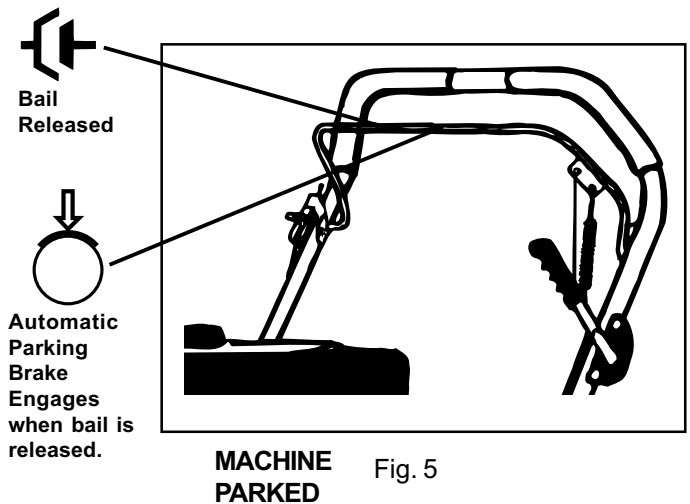
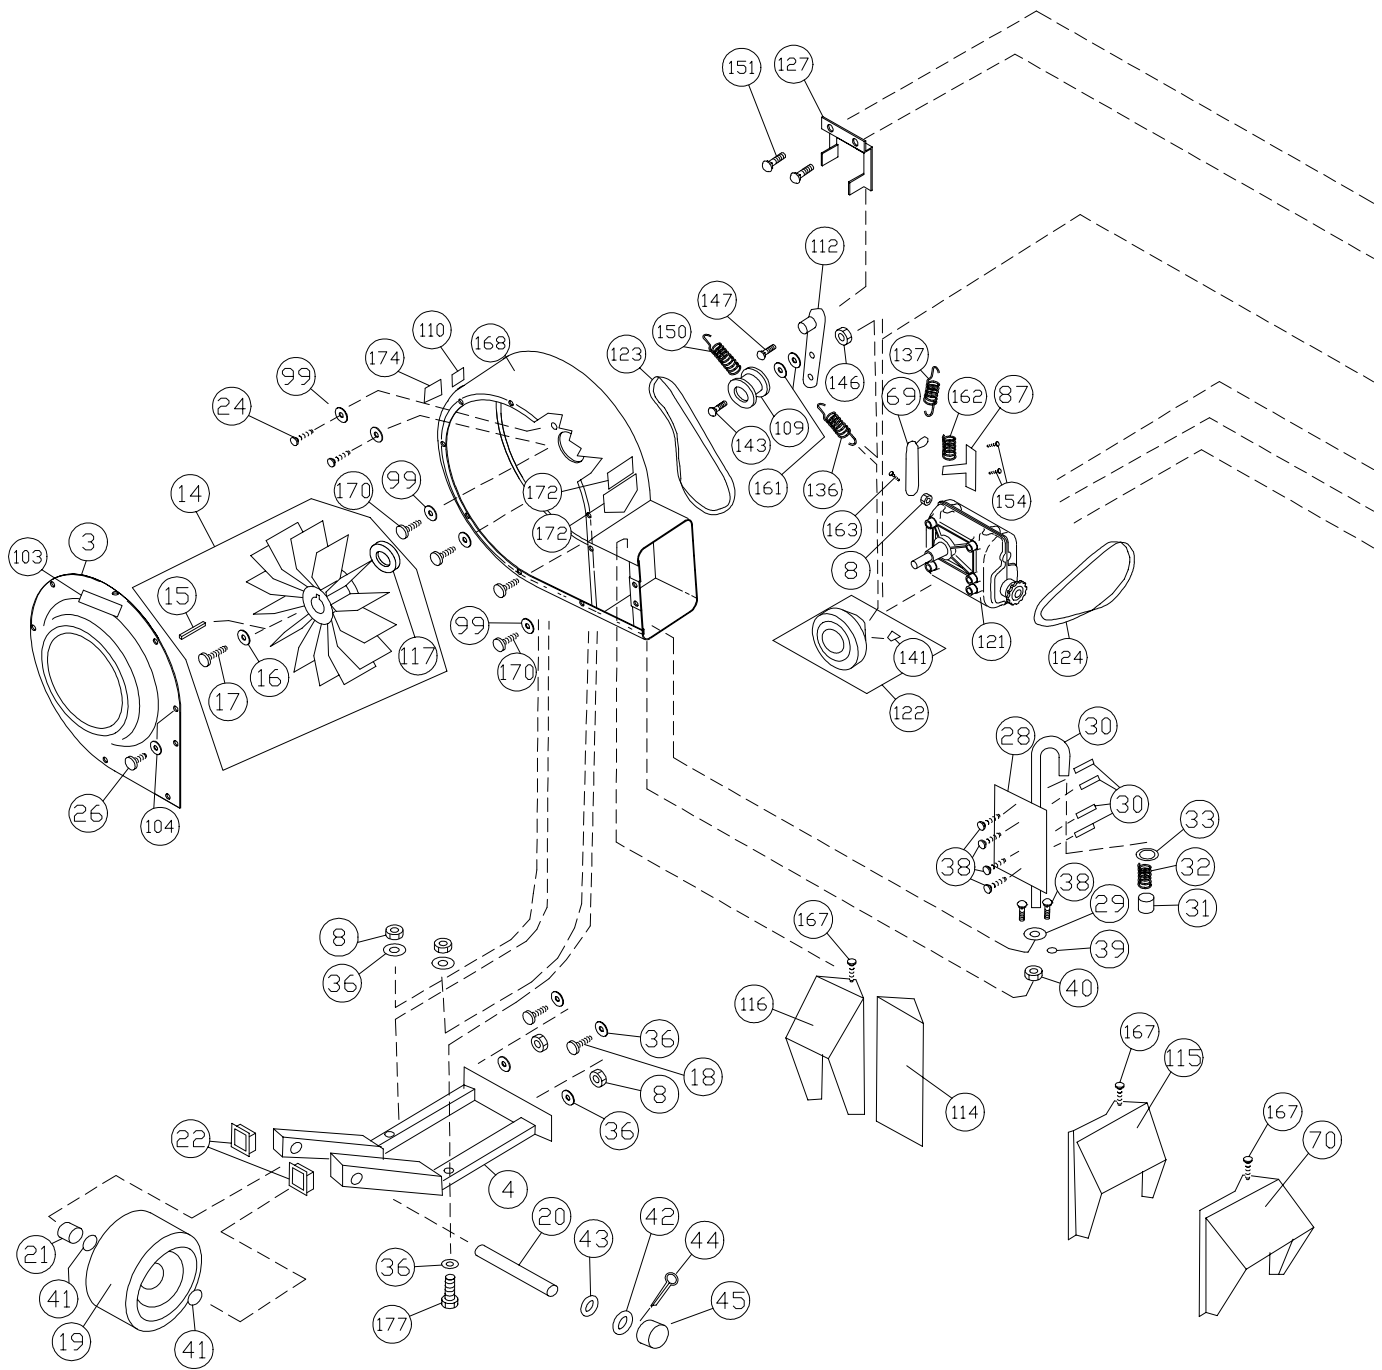

Fig. 5
Fig. 4
**PROPULSION:** QB1601 self-propelled blowers are equipped with 5 forward gears, neutral and reverse. (see TABLE 1 below) With the engine running, and the bail in released position select desired drive gear. (see Fig. 4) Pull bail against handle to automatically release brake and engage drive (see Fig. 5). Smoothly engage the bail.
Do not force-shift gears of transmission. **Shift gears only when drive is disengaged.** To stop machine, release operator's bail. To move unit by hand "freewheeling", requires that the gear shift be in neutral (see Fig. 4), and the operator hold the drive bail against the handle to disengage the parking brake.
With operator's bail released, move shift lever past neutral stop, by pulling the shift lever back and moving it to the right, into "Reverse" gear position. Then smoothly pull operator's bail against handle. Release bail to stop (see figure 5).